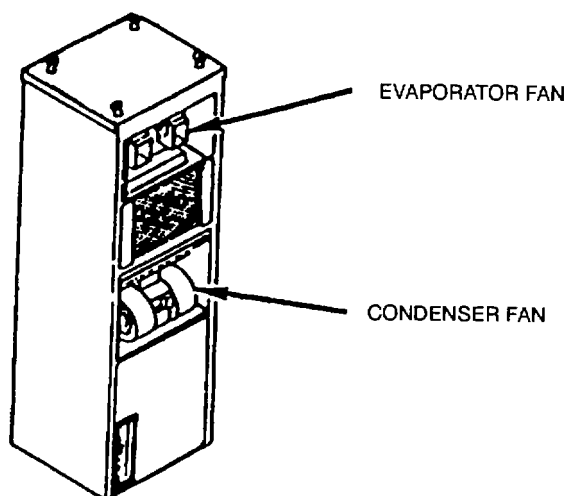

Figure 4-7. Condenser and Evaporator Fan Location
4.11.7 Condenser and Evaporator Fans Rotation Check (see fig. 4-7).